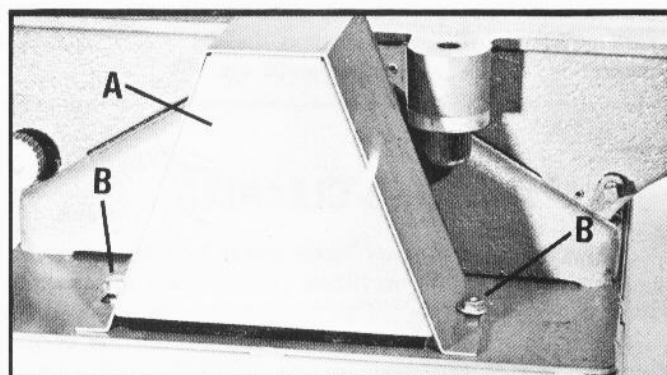

Fig. 5
The belt and pulley guard (A) Fig. 5, is shipped with the stand. Assemble it to the stand using the two 5/16-18 x 3/4" hex head screws and 5/16" flat washers shown at (B) Fig. 5, and the two 5/16" lockwashers and 5/16-18 hex nuts (not shown).